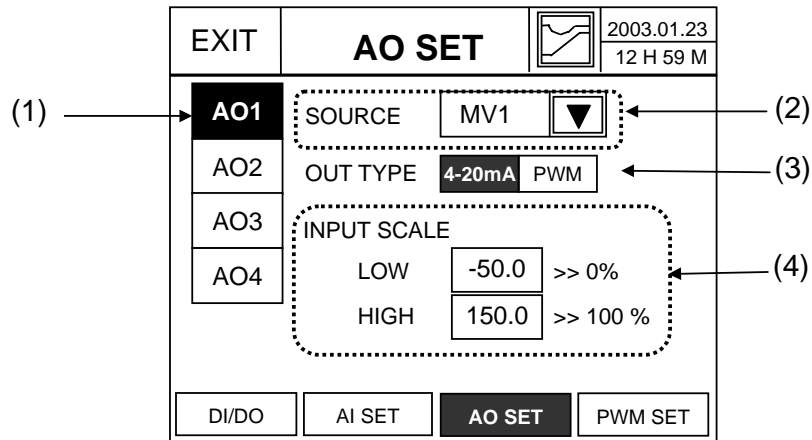
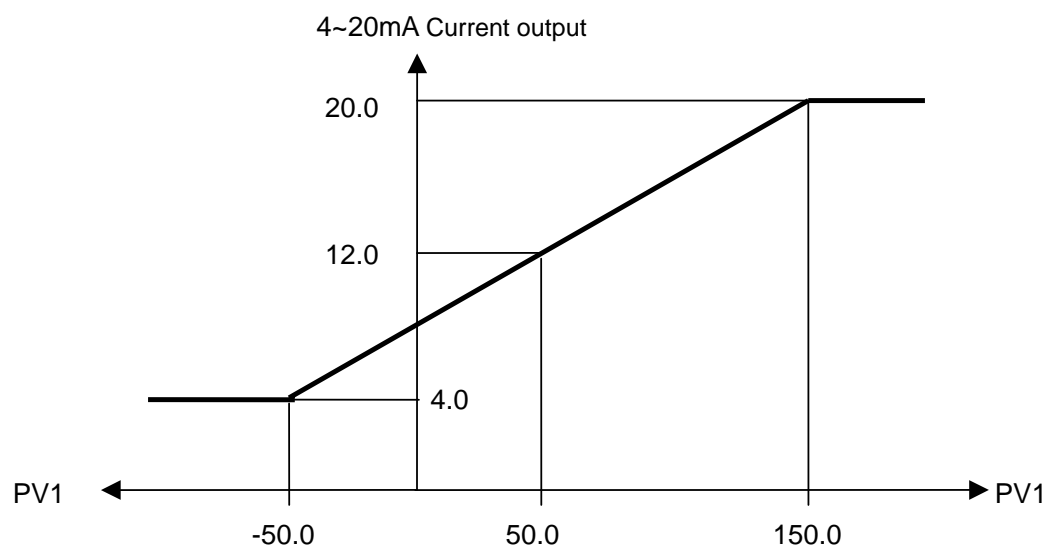

Fig. 3.5.1 AO SET screen
Fig. 3.5.3 Current output scale adjustable graph
- If selecting one of PV1, PV2, SP1, SP2, DV1 and DV2 in figure 3.5.2, (4) item in figure 3.5.1 for setting output scale of 4~20mA is displayed.
- Refer to figure 3.5.3 to adjust 4~20mA by setting scale value.
Example of Figure 3.5.3 is same case with set value of figure 3.5.1.